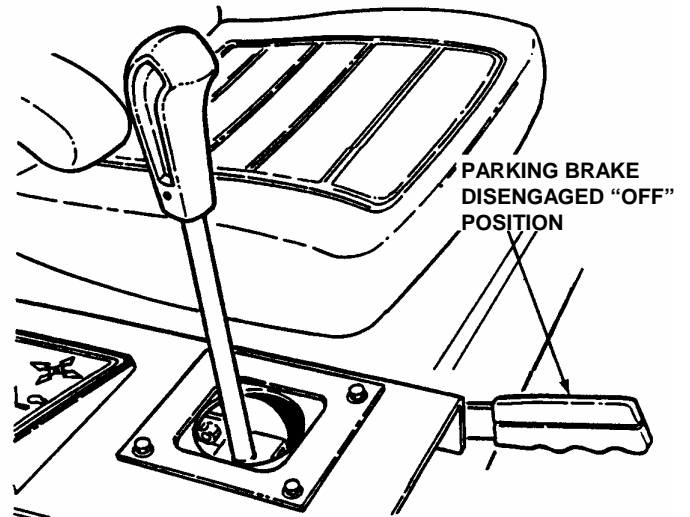

FIGURE 2.8
2. Release parking brake by moving brake lever down to the "OFF" position. See Figure. 2.8.